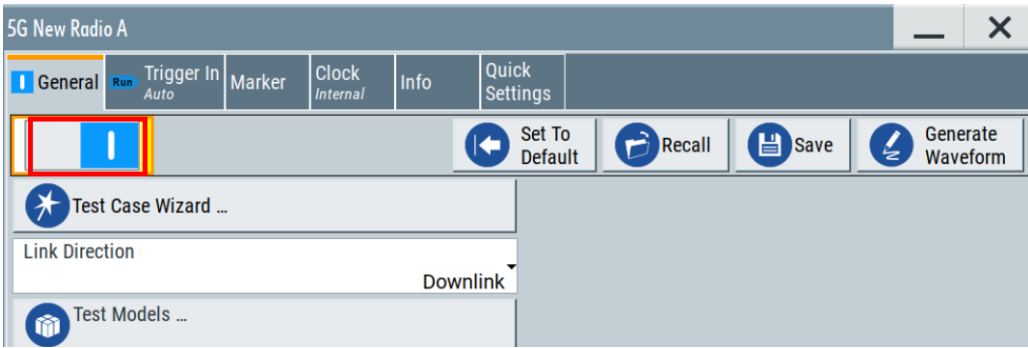

Fig. 7-12 Turn on the 5G NR baseband
6. Switch on Baseband, see Fig. 7-12